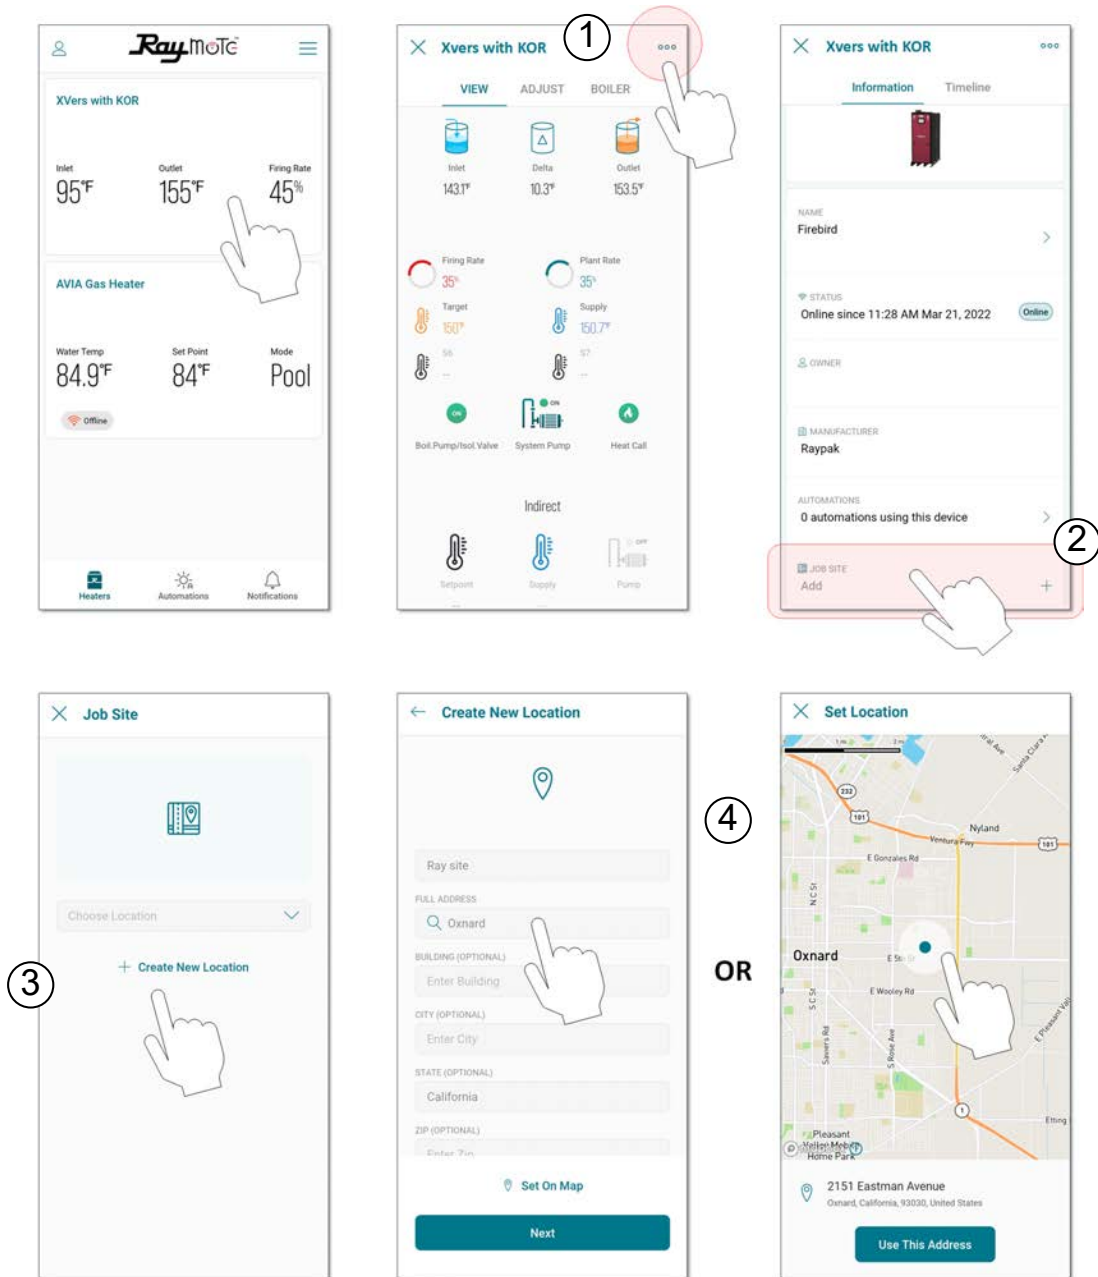

Figure 53. New Location From App
1. From Boiler main view, click in the 3-dots icon (...) on top right corner. See **Figure 53**.